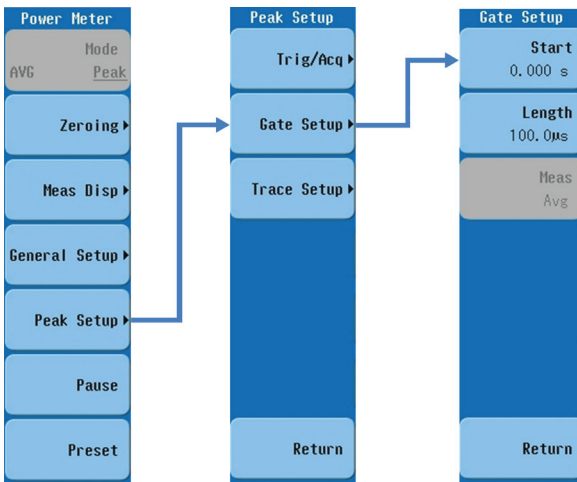

Figure 6. Menu tree for Gate Setup
- As shown in Figure 6, the Gate Setup menu is accessed through the **Peak Setup** menu under the Power Meter root by selecting **Gate Setup**.